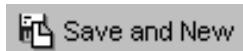

Figure 8-44. Save and New Button
- To save the publication pattern and create a new publication pattern, click the **Save and New** button (Figure 8-44) on the toolbar.